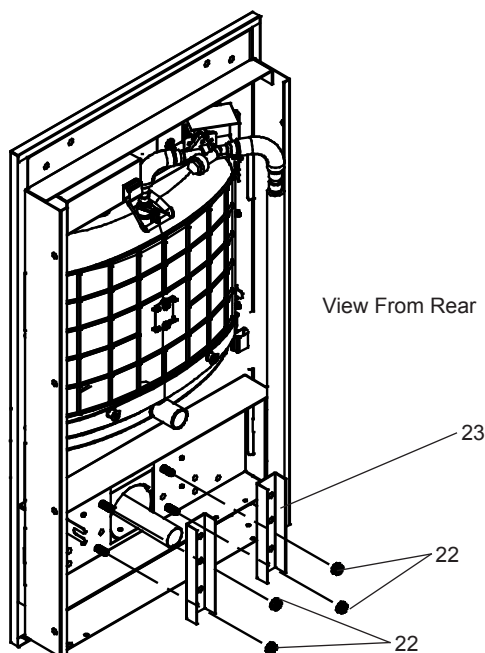

Figure 5 - Fountain Installation
7. **Install fountain** with (4) 5/16-18 HHMS, (4) 5/16-18 nuts & (2) support brackets (provided) (Fig 5). Connect the 1/4" water line from the fountain to the remaining opening on the tee at the remote chiller (cut line to fit as needed).